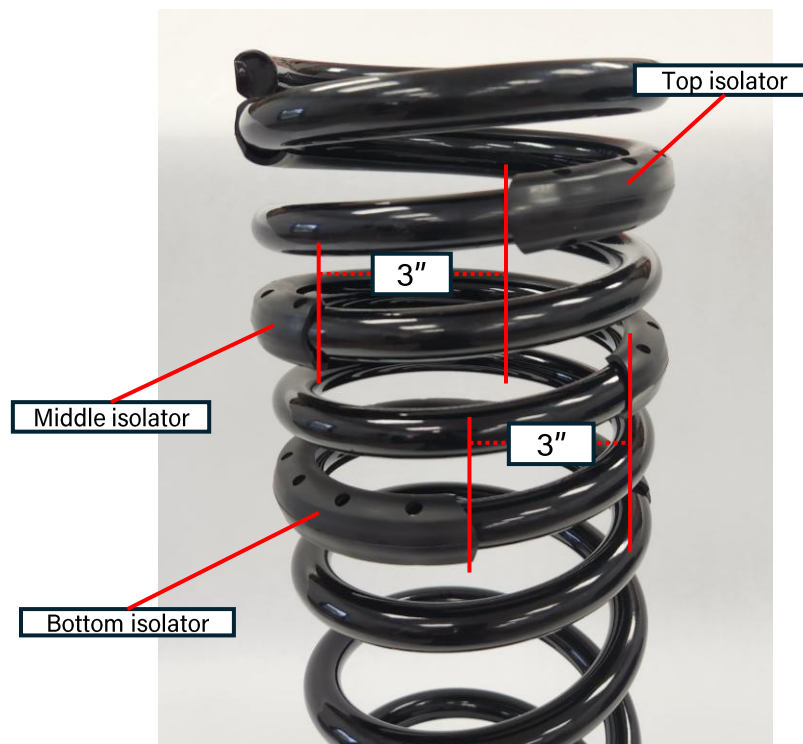

Figure 2: Middle and bottom isolator location
- Install the middle isolator as shown in Figure 2. Measure about 3 inches from the end of the first isolator and install the middle isolator on the coil ring below it.